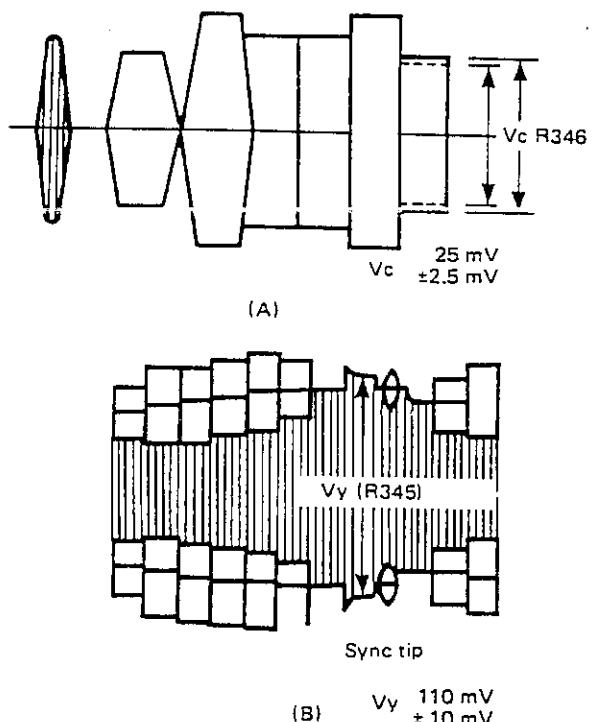

Figure 45
- 3) Adjust R346 (record balance control) to balance the two channels as shown in figure 45-(A).
- 5. Adjust R345 (record colour level control) so that the burst level will be V_c as shown in figure 45-(B).